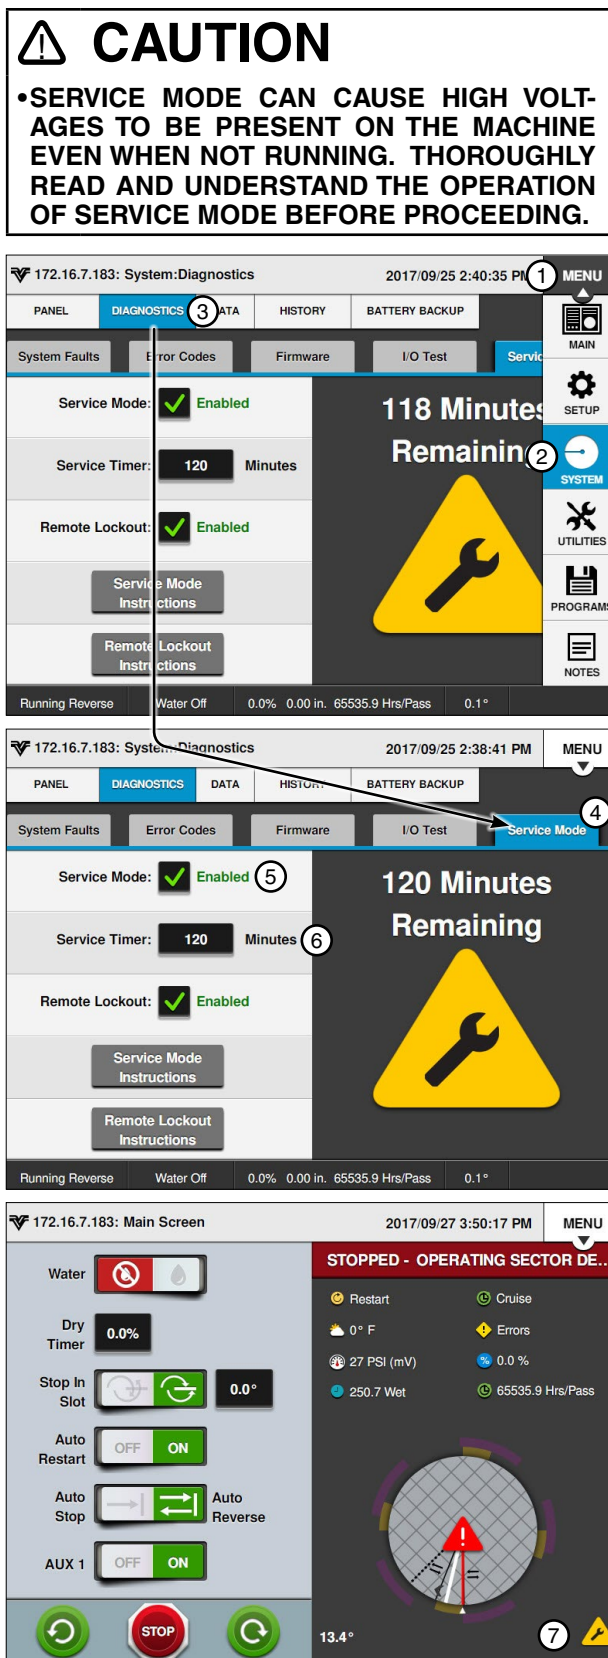

Figure 55-1 1. Menu 5. Service Mode Checkbox
1. Push **Menu**, **System**, **Diagnostics**, and **Service Mode** to view the Service Mode screen. See Figure 55-1.